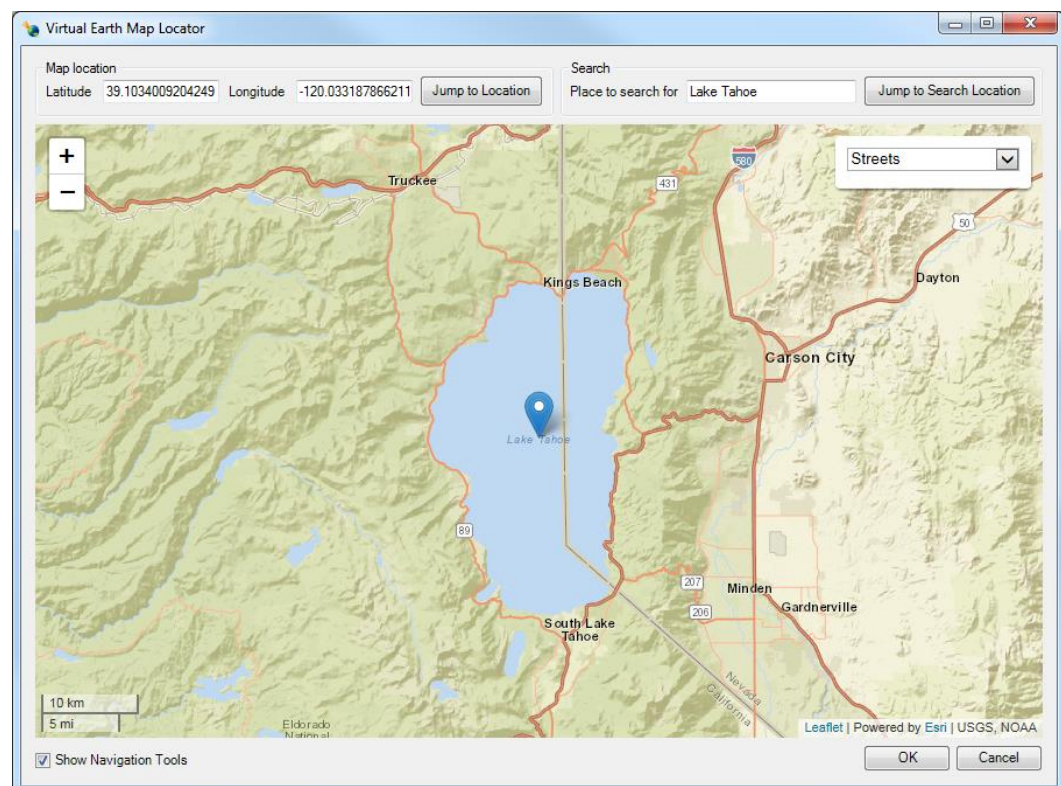

Figure 14 Virtual Earth Map Locator dialog
2. In the *Place to search for* field, type “Lake Tahoe, CA” and click **Jump to Search Location**. After a moment, Lake Tahoe will appear in the center of the *Virtual Earth Map Locator* dialog (Figure 14).